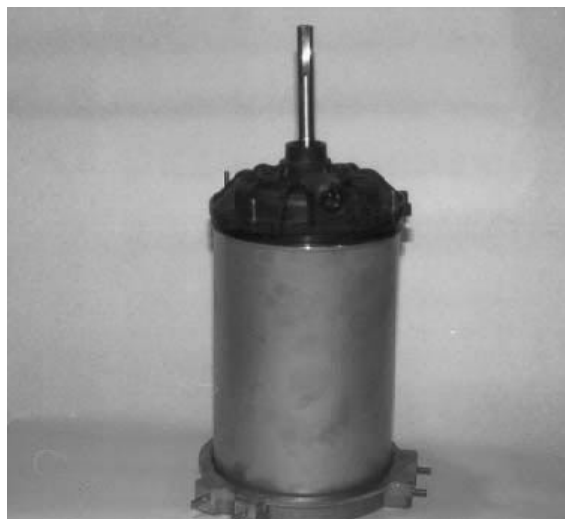

Figure X-25 LM motor/motor base plate assembly in housing.
- B. Lower the motor/motor base plate assembly into the S/S housing. (Fig. X-25)**